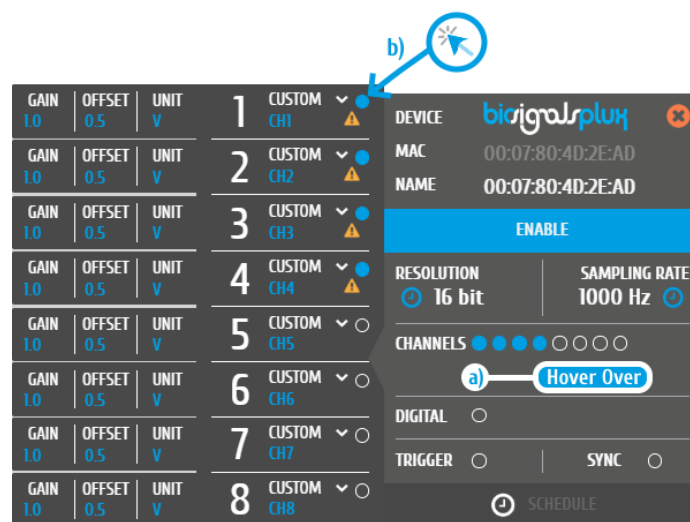

Figure 49: Channel configuration.
a) Hover over the *CHANNELS* field to open the list of available channels, **b)** activate or deactivate channels by clicking on the circles which are placed on the *CHANNELS* field or next to each single channel. Active channels are marked with blue circles, while inactive channels are marked by empty circles (e.g. in Figure 49 channels 1-4 are active, while channels 5-8 are not). Note, that if you have no sensor specific type selected for an active channel, a warning sign will appear on the respective channel (seen in the image below).
If a channel is activated, but no selection of sensor type has been made, the warning sign will be displayed on the selected channel as seen in Figure 49 (only in *OpenSignals (r)evolution* versions of June 2018 and newer).